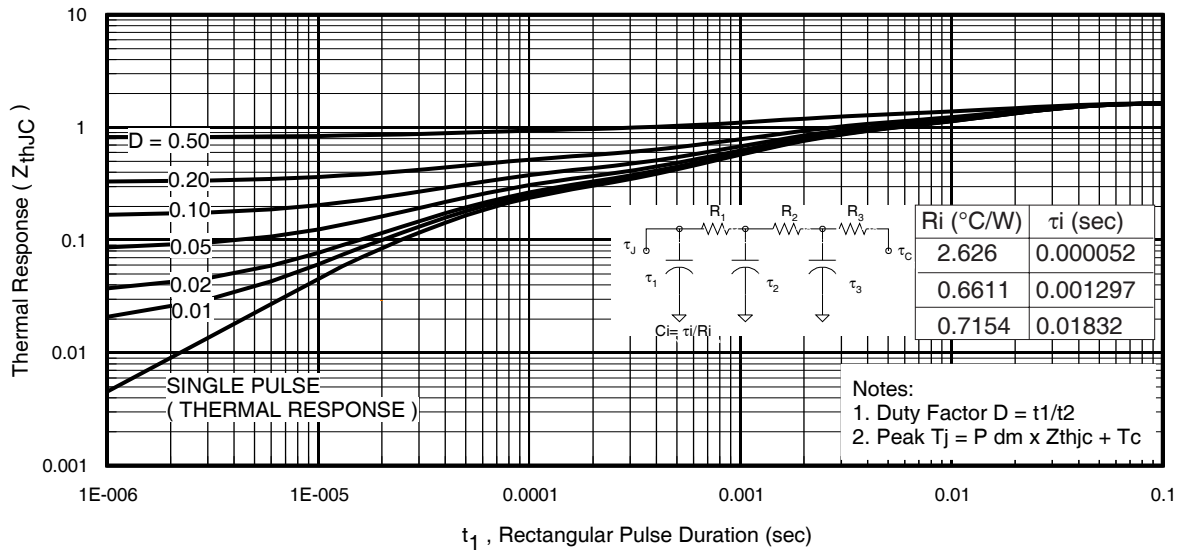
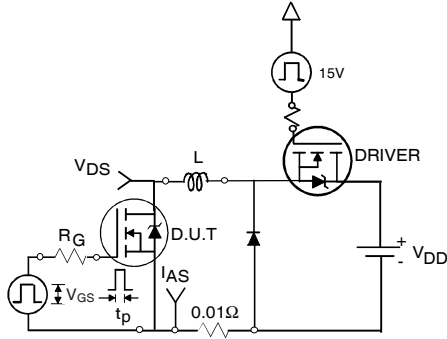

Fig 11. Maximum Effective Transient Thermal Impedance, Junction-to-Case
Fig 12a. Unclamped Inductive Test Circuit
3. Equation below based on circuit and waveforms shown in Figures 12a, 12b.
$Z_{thJC}(D, t_{av})$ = Transient thermal resistance, see figure 11)
- ① Repetitive rating; pulse width limited by max. junction temperature. (See fig. 11).
- ② Limited by T_{Jmax} , starting $T_J = 25^\circ\text{C}$, $L = 0.17\text{mH}$, $R_G = 25\Omega$, $I_{AS} = 21\text{A}$, $V_{GS} = 10\text{V}$. Part not recommended for use above this value.
- ③ Pulse width $\leq 1.0\text{ms}$; duty cycle $\leq 2\%$.
- ④ C_{oss} eff. is a fixed capacitance that gives the same charging time as C_{oss} while V_{DS} is rising from 0 to 80% V_{DSS} .
- ⑤ Limited by T_{Jmax} , see Fig.12a, 12b, 15, 16 for typical repetitive avalanche performance.
- ⑥ This value determined from sample failure population. 100% tested to this value in production.
- ⑦ When mounted on 1" square PCB (FR-4 or G-10 Material).
- ⑧ R_θ is measured at T_J approximately 90°C